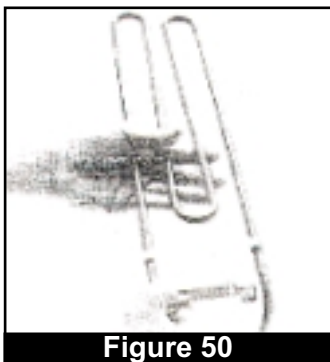

Figure 50
7. Slide brackets (large one first) over the connector end of the new heating element. (Fig. 50)